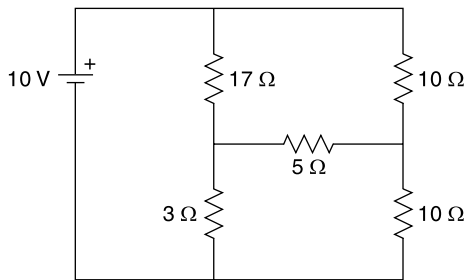

Fig. 4.94 Circuit of Ex. 4.67
4.67 Find the current through the 5 Ω resistor in the network of Fig. 4.94 using Thevenin's theorem.
The 5 Ω resistor is first removed. The circuit configuration is shown in Fig. 4.94(a).